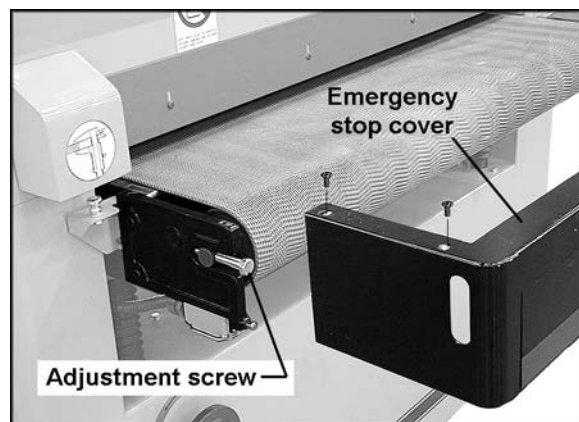

Figure 13
2. Rotate the adjustment screws (the left one is shown in Figure 13) as needed with a 19mm wrench. Rotate clockwise to increase tension, counter-clockwise to decrease tension. (NOTE: Removal of the emergency stop cover is not necessary for tensioning.)
1. Remove the four screws securing the emergency stop cover and remove the cover. See Figure 13. This will allow better inspection of the belt's movement on the roller.
3. Adjust tracking using the same adjustment screws that were used for tensioning in Figure 13.